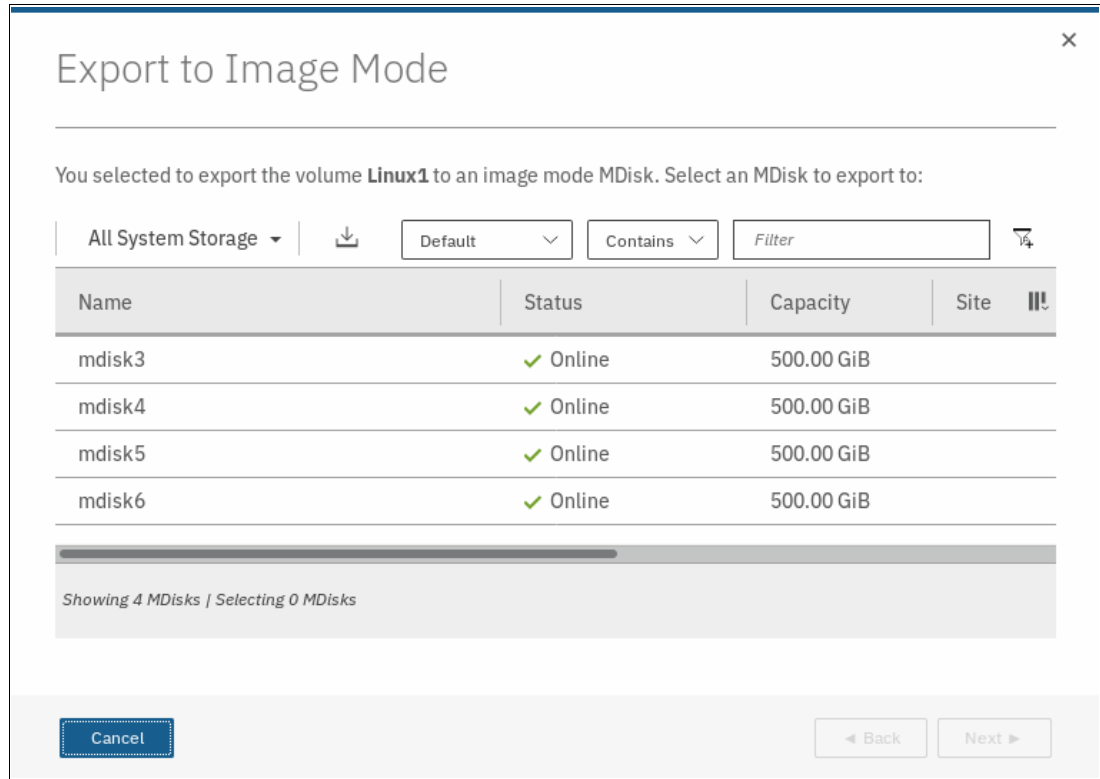

Figure 8-44 Selecting the MDisk to which to export the volume
- The Export to Image Mode wizard opens and displays the available MDisks. Select the MDisk to which to export the volume, and click **Next**, as shown in Figure 8-44.